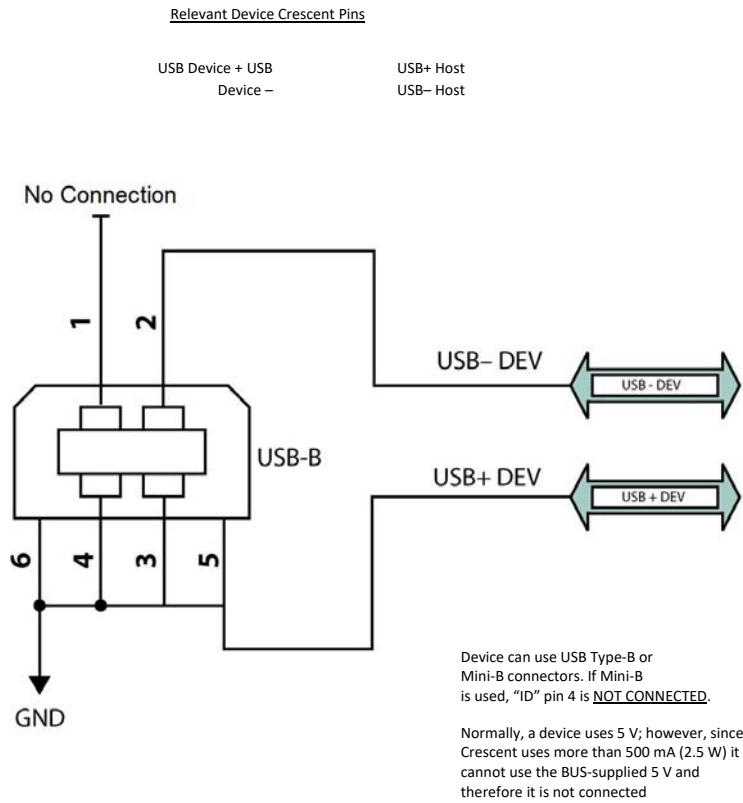

Figure 2-6: Crescent USB device design example
- USB device port (data communication) shown in Figure 2-6 on page 16 serves as a high speed data communications port, such as for a PC